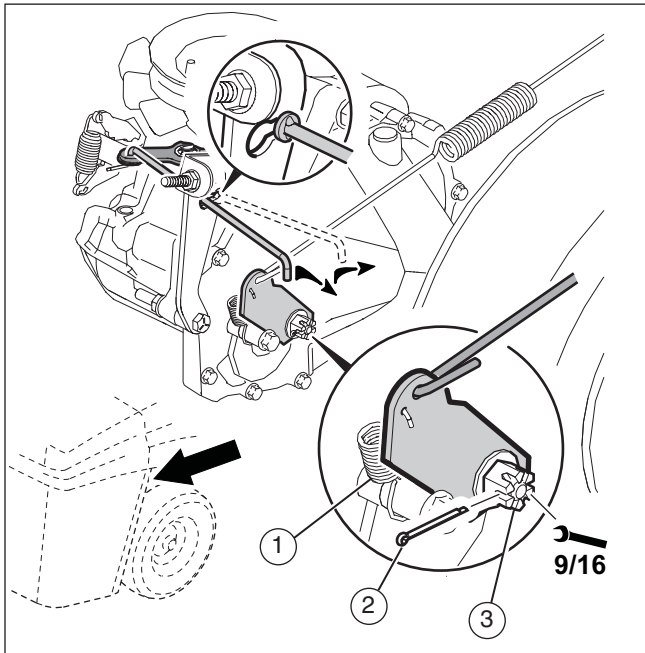

Figure 23
1. The location of the drive brake is on the right side of the gear box (see **Figure 23**).